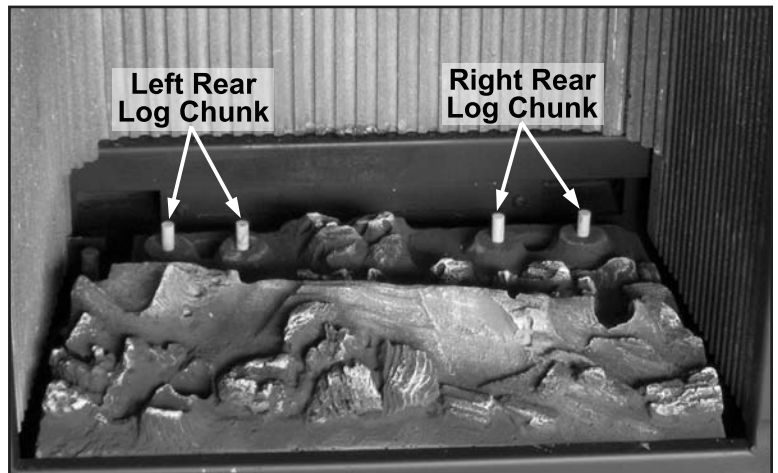

Figure 37: Log Placement of Rear Log Chunks.
2. Place the Left Rear Log Chunk on the two (2) left rear pins and the Right Rear Log Chunk on the two (2) right rear pins (refer to Figures 37 and 38).